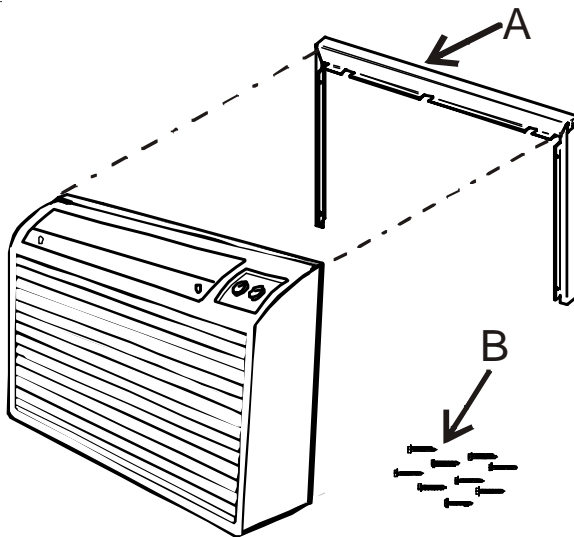
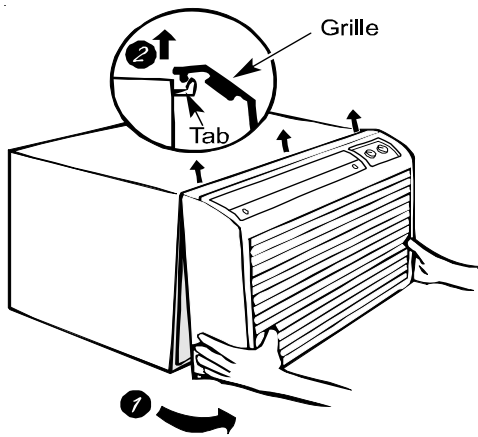

Figure 1
Figure 3
NOTE: Parts are listed in the order in which they are used, and are illustrated in Figure 1. (Foam gasket, C, not shown.)
3. Remove the front grille by pulling the grille out from the bottom and lifting up from the tabs on the top of the case. (Figure 3.) Place bracket on front and drill four (4) 1/8" holes through bracket holes into front. See bracket fit to front in Figure 1. Make sure bracket is tight on the front before drilling holes.
4. Attach bracket adapter to front grille with the four (4) #8 x 3/8 screws provided in the kit. Heads of the screws should be on the outside side faces of the grille front so the screws thread into the bracket flange.